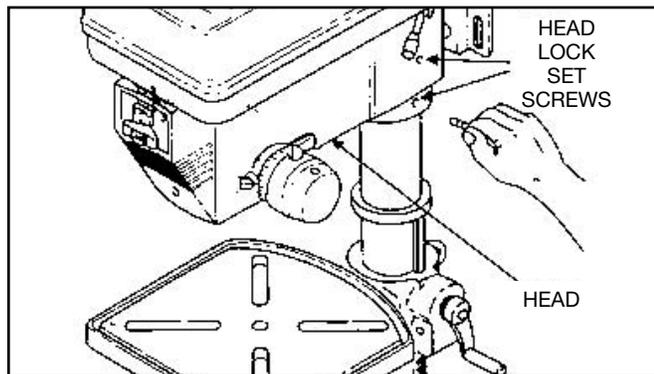

FIGURE 11
2. Locate (2) two 3/8" Dia. x 1/2" long set screws in loose parts bag.
3. Install a set screw in each hole (as indicated) on the right side of the Head. Using a 5 mm Hex "L" wrench, tighten the two head lockset screws. See figure 11.